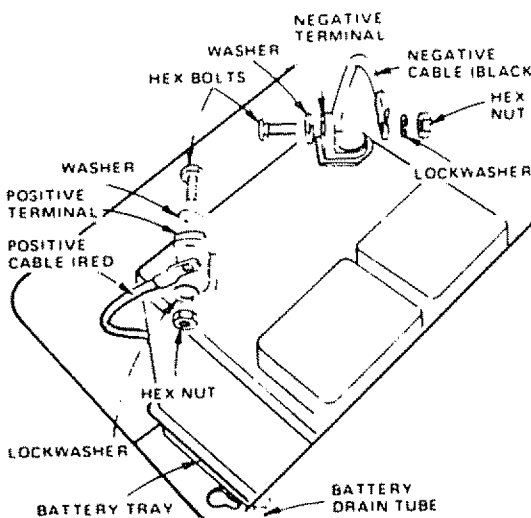

FIGURE 16
- Connect each end of the RED cable to the POSITIVE (+) terminals of each battery (taking care not to short against chassis). (Fig. 16)